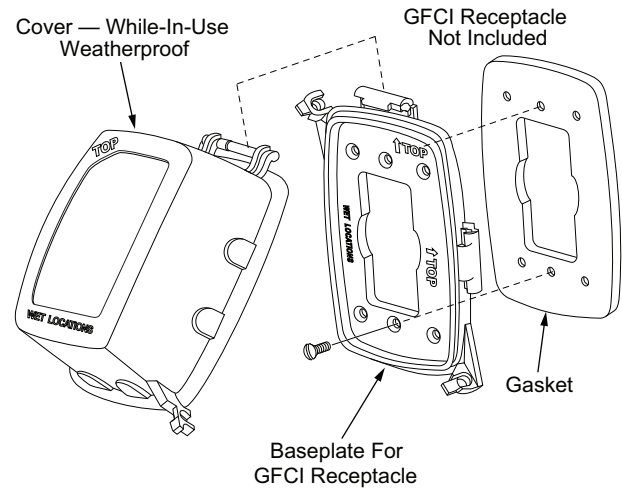

Fig. 30 — Weatherproof Cover Installation
4. Mount the weatherproof cover to the backing plate as shown in Fig. 30.